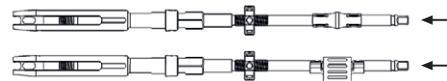

Fig. 12
- ▶ Insert the subassembly into the FRI outer sleeve, see Fig. 12.